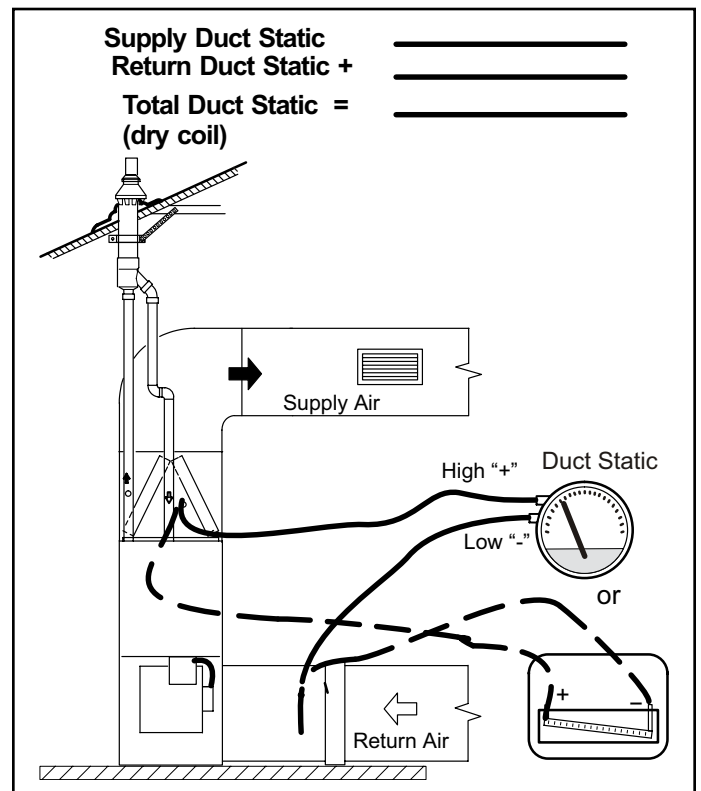

Figure 56. External Static Pressure
1. Tap locations shown in Figure 56.